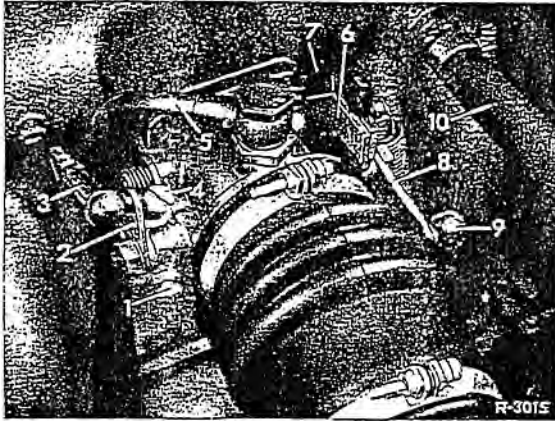

Fig. 07-25/3
replaced or the base bore re-bushed and reamed. A clearance of between 0.04 and 0.08 mm should be adhered to between the bore and control valve shaft. Also check the seating of the air jet and the auxiliary venturi pipe. Correct depth of thread engagement is important here (Fig. 07-25/4). The dimension b must be 4.5 ± 0.3 mm, dimension c of the air jet 5 mm. A change in the dimension b or in the diameter of the jet influences governing and results in incorrect adjustment values. Regarding checking the attaching flange on the venturi control unit: if necessary, smooth the sealing surface on a surface plate. After reconditioning, first set the full-load stop screw (1) so that in the full throttle position the control flap is not quite fully open by about 5° — it should not be fully open. This setting renders possible subsequent correction of the full-
load maximum speed and of the maximum rpm under no-load conditions (Fig. 07-25/3). The dimensions a, b and c, the venturi control unit housing, the control valve, the control valve shaft,